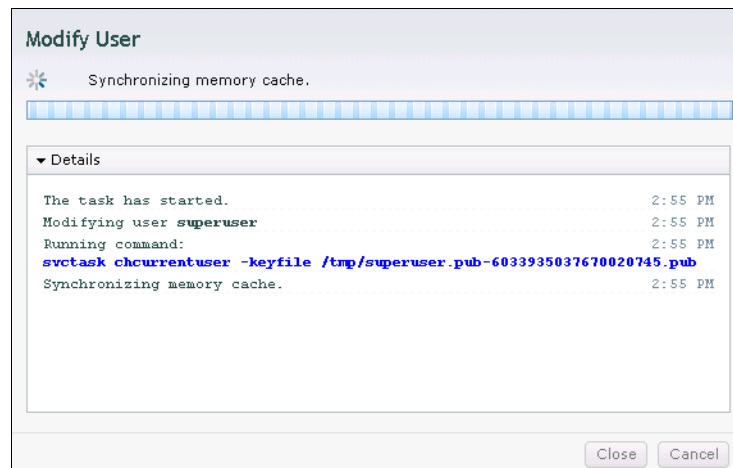

Figure A-8 Public key upload complete
4. Click **OK** and the key is uploaded (Figure A-8).